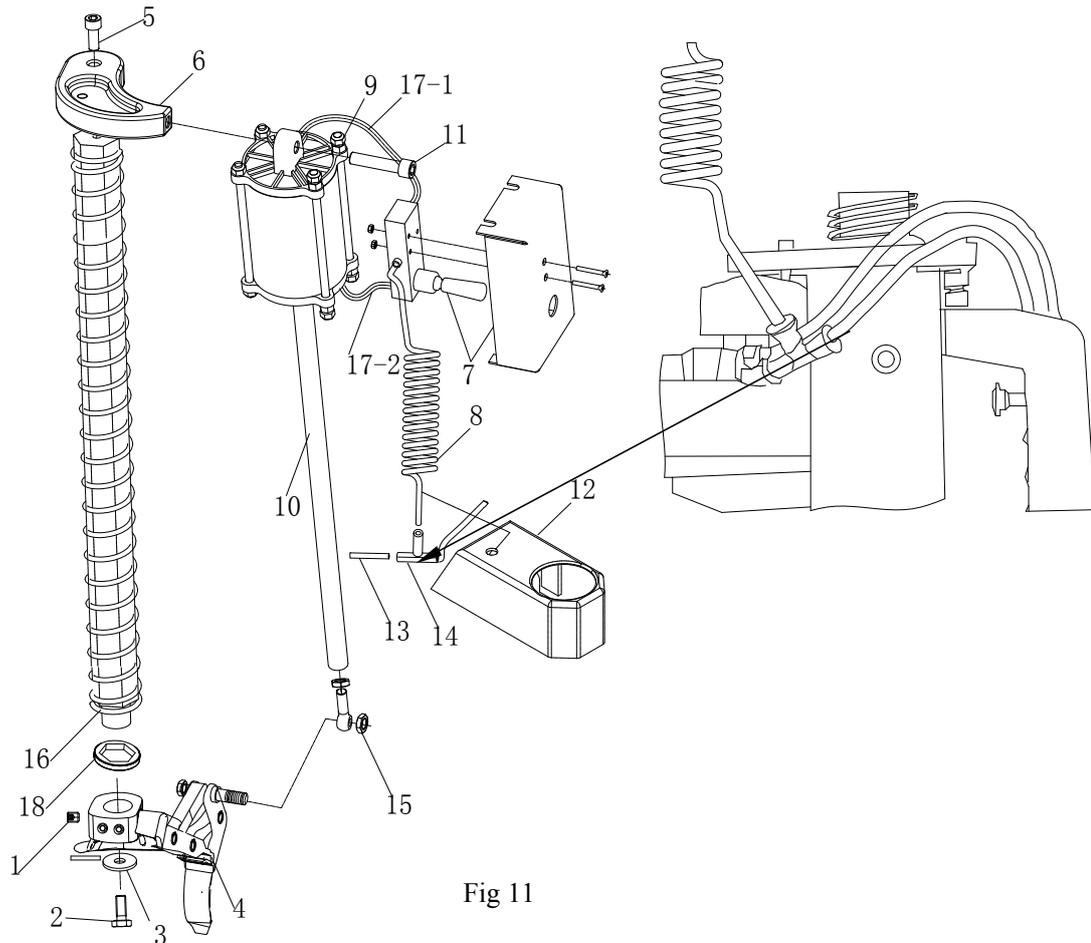

Fig 11
11.3.4 Assembly (shown as Fig 11)